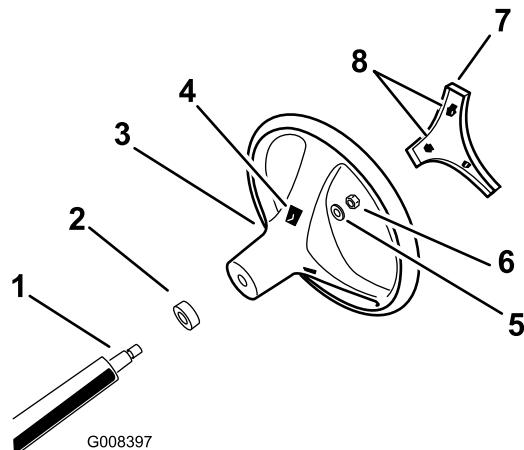

Figure 3
1. Through the openings in the back of the steering wheel, release the lock tabs of the center cover and remove the cover from the wheel (Figure 3).
2. Remove the lock nut and washer from the steering shaft (Figure 3).
3. Align the steering wheel onto the splines of the steering shaft (Figure 3).
4. Assemble the washer and lock nut threads of the steering shaft (Figure 3).
6. Align the lock tabs of the center cover to the openings in the steering wheel and press the cover into the wheel until the locks tabs snap into place (Figure 3).